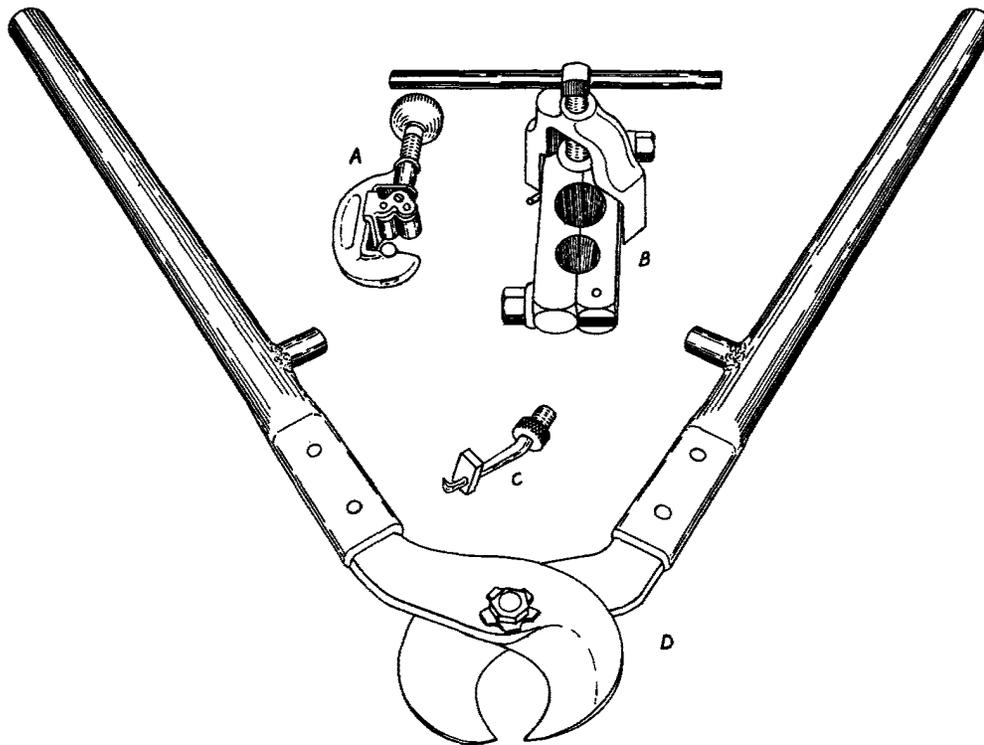

Fig. 16
3.04 Special Tools: The tools shown on Fig. 16 are required to properly terminate flare type fittings on STYROFLEX cables having an outside diameter of 1/2-inch to 1-1/8-inch. The following lists the catalogue numbers of the tools shown on Fig. 16 which are supplied by the Communication Products Co.
- (A) Catalogue Number 131-507 - Rotary cutter fitted with special wheel and rollers for use in cutting cable up to and including 7/8-inch diameter.
- (A) Catalogue Number 150-507 - Rotary cutter for 1-1/8-inch diameter cables.